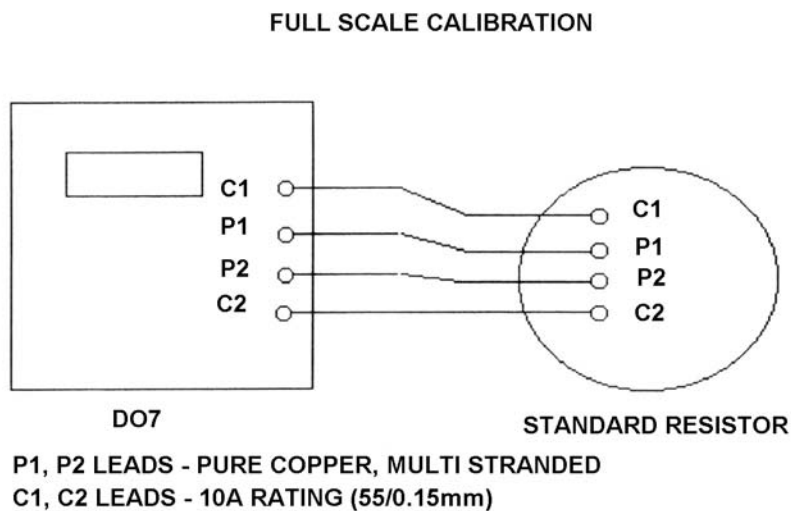

Fig. 20.1
20.3 For FS measurements, connect the C1 and C2 leads in the conventional manner (see Fig 20.1).